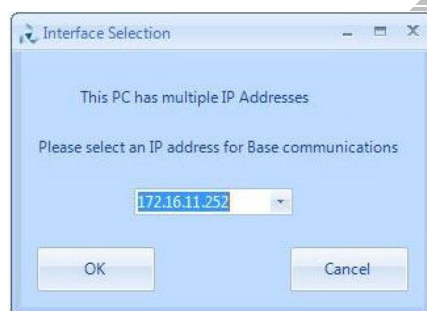

Figure 8. Interface Selection screen.
9. If the PC has more than one IP address or Network Connection, when the IP Configuration Tool is started, the Interface Selection screen will be displayed (see **Figure 8** below).